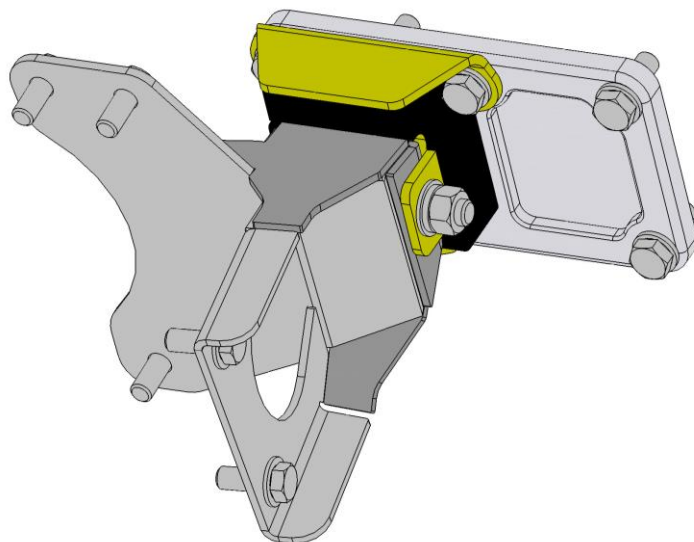

Figure 2 – Assembled View
5. Once everything is positioned correctly on the frame and engine, attach the engine to the frame using two 7/16"-14 x 3-3/4" L hex head bolts (#9). Use the provided 7/16" flat washers (#11), 7/16" lock washer (#12) and the 7/16"-14 hex nuts (#10) to tighten everything in place. Torque these bolts to 30 ft. /lbs. Figure 2 on the next page shows an assembled view.